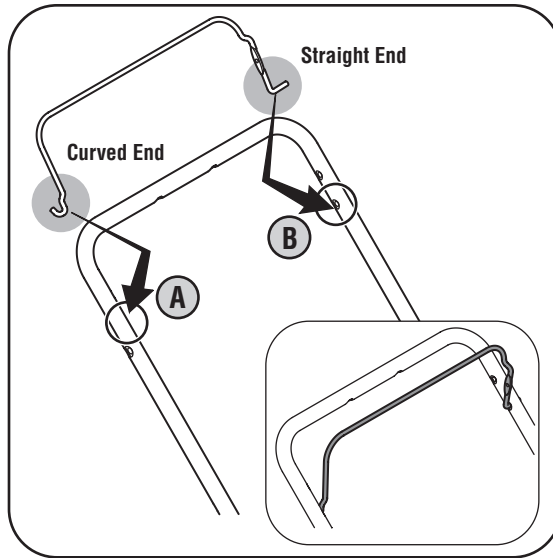

Figure 3-5: Install the blade control (if needed).
1. Insert the curved end of the blade control into the right hole. See Step A, Figure 3-5. Squeeze the handle in and insert the straight end of the blade control into the left hole of the upper handle. See Step B, Figure 3-5.